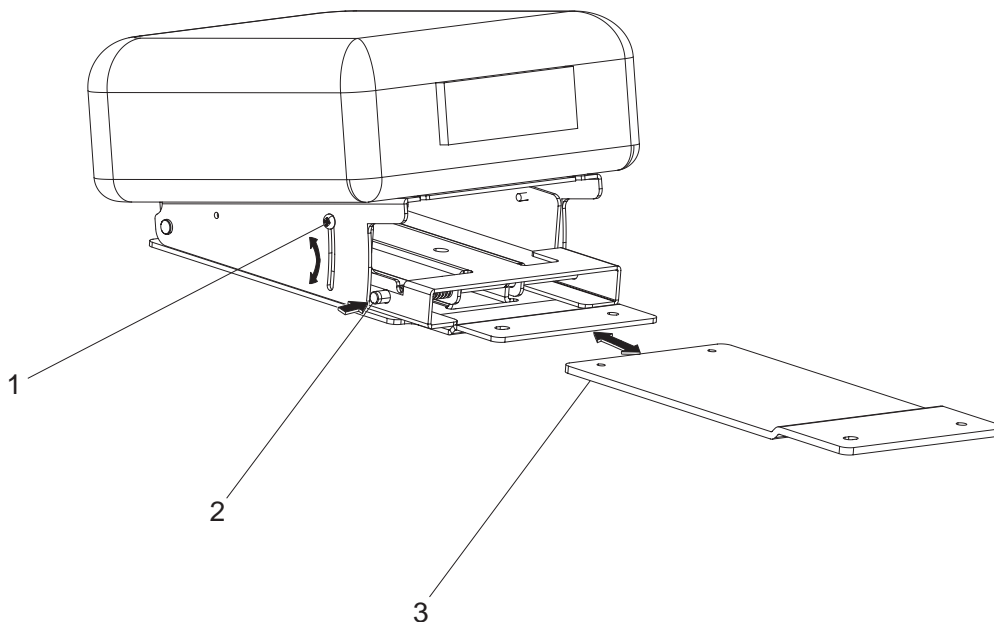

Figure 53. Payment terminal features
5. Use short set of screws to extend payment terminal bracket. See Figure 53.